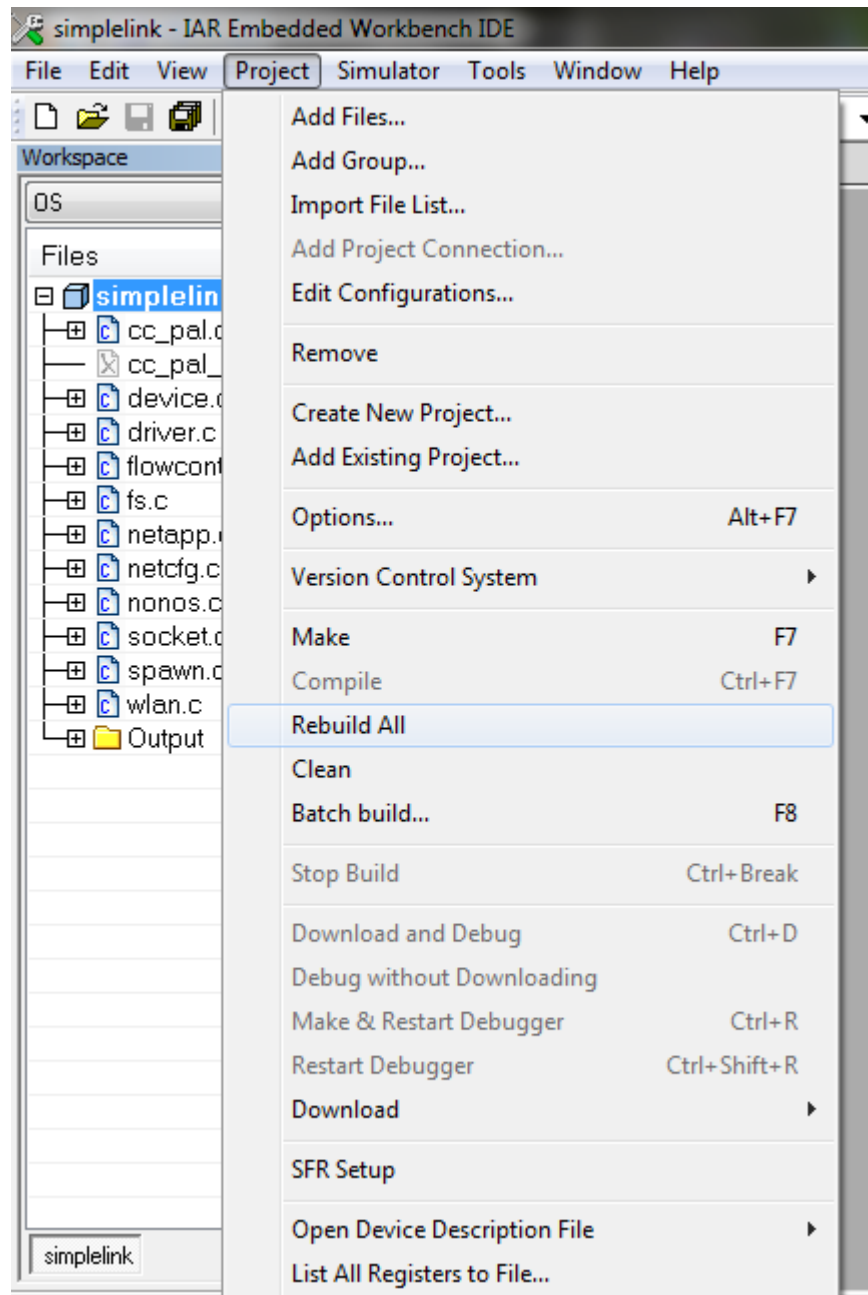

Figure 19. Rebuild the *simplelink* Project.
3. Rebuild the *simplelink* project by selecting *Project>Rebuild All* from the menu as shown in Figure 19.